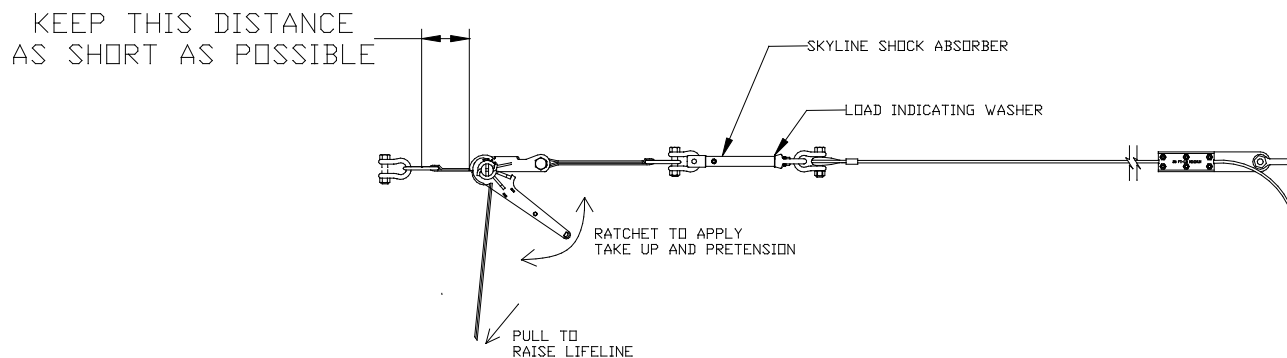

Fig. 5 Shock Absorber Load Indicating Washer
30. Tighten the ratchet load binder until the line tension just releases the load-indicating washer of the Shock Absorber to spin free. This washer is located just under the eye of the Shock Absorber (see Figure 5). A freely spinning washer indicates that the cable has been pre-tensioned to 1000 lbf.